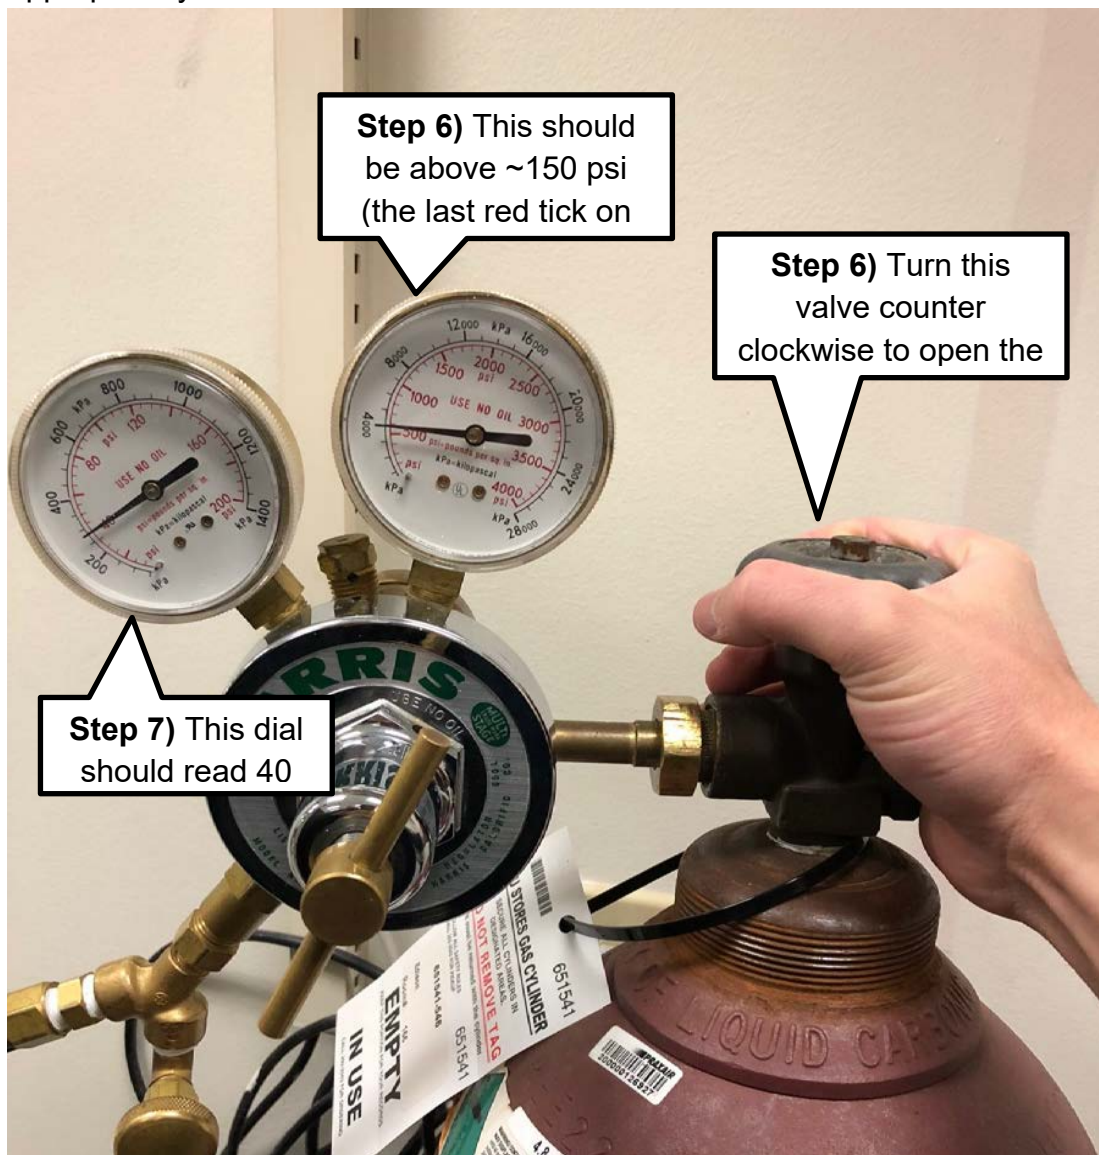

Figure 12. Gleeble argon gas tank gauges
- 6) Open the argon tank valve to allow gas to flow to the Gleeble. The right gauge on the tank should be above 150 psi (gas level in the tank). If the right gauge is below 150 psi (the last red tick on the dial), replace the argon tank appropriately. See Figure 12 for reference.